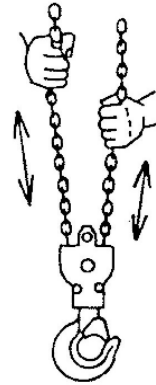

Fig. 8
- (2) Keep Load chain clean and well lubricated.
- (3) Check Load hook is not stretched or damaged and Hook latch is in the normal position.
- (4) Check the Chain wheel in Bottom hook block operates smoothly (See Fig. 8).
- (5) Check the support bearing of Bottom hook is not damaged, and rotates easily and smoothly.
- (6) Check the trolley wheels track on the rails properly and the wheels and rails are not worn.
- (7) Check the lifting sling is not damaged or worn and properly engaged into the Bottom hook.